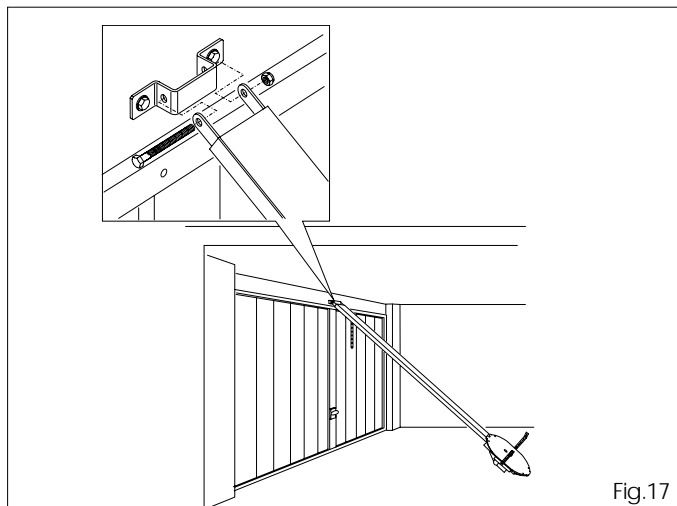

Fig.17
6.6 Place the operator on the ground, lift up the sliding longitudinal member and step toward the bracket – fit the screw and tighten the nut (fig. 17).